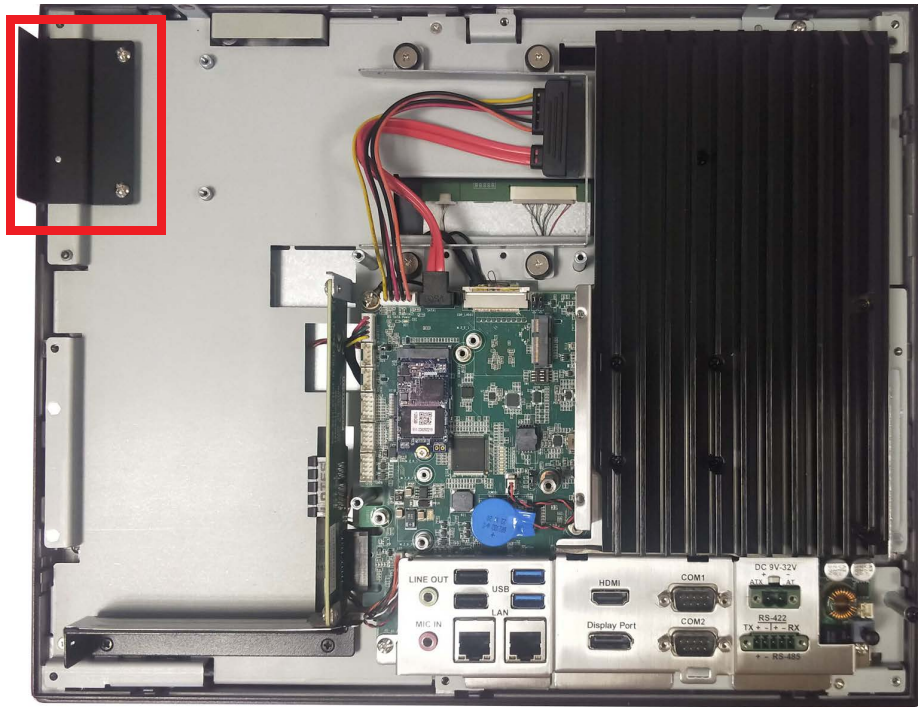

Figure 2.35
1. Remove the screw on the side of the I/O cover (see Fig. 2.35).